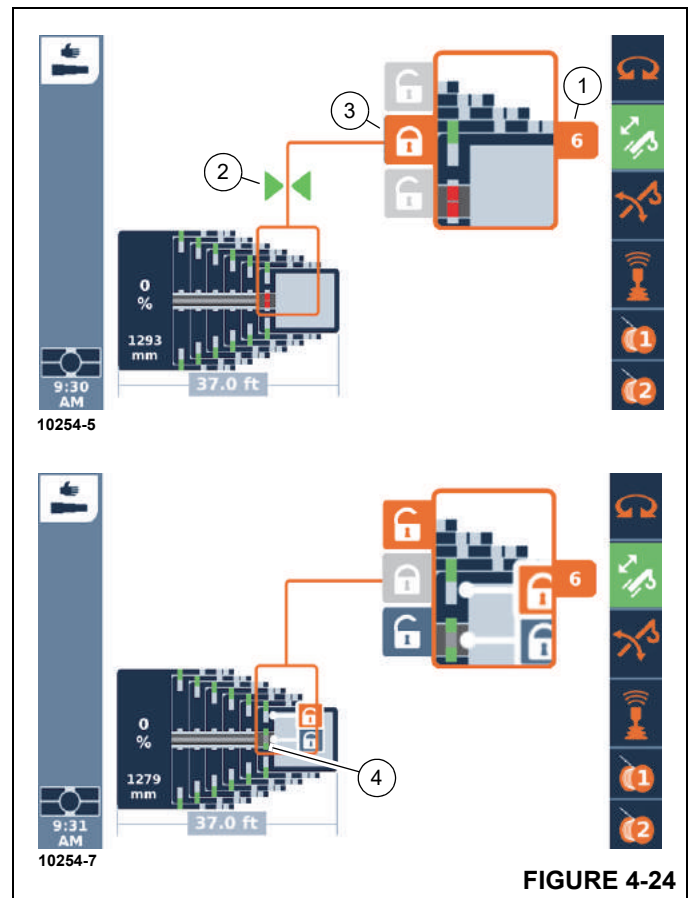

FIGURE 4-24
1. Move the telescoping cylinder to the desired locking point, e.g. to telescopic section 1 (Figure 4-24).